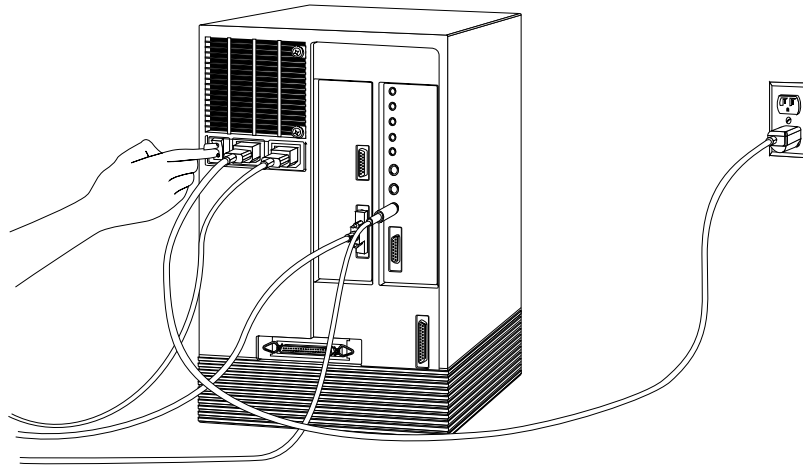

Figure 1 Turning Off the Power
- When you are informed that it is safe to do so, turn off the power switch on the back of the Indigo chassis, as shown in Figure 1.